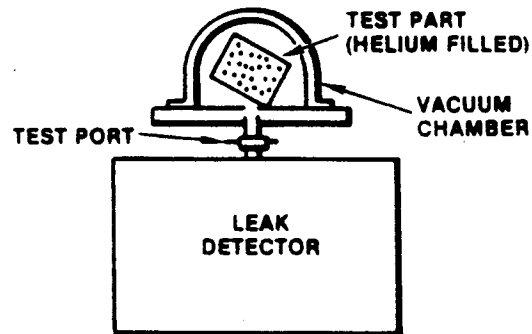

Figure 1-5. Test piece sealed with helium or tracer gas; bell jar used to determine total leak rate.
(3) TEST PIECE ALREADY SEALED (FIGURE 1-5)